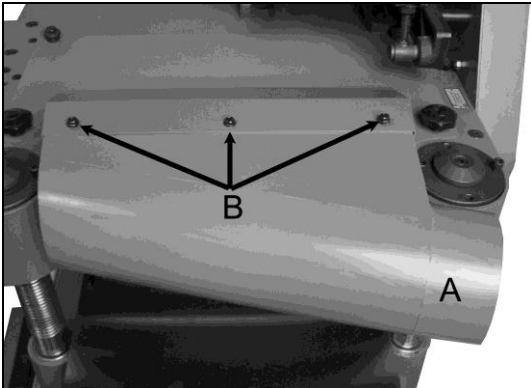
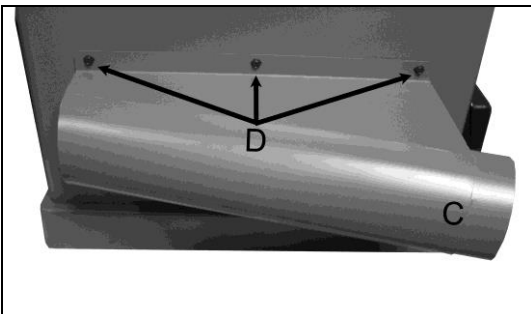

Figure 4
Figure 5
- 1 The top dust chute (A, Figure 4) is shown mounted to the machine using three 10mm bolts (B, Figure 4). Although not shown, there are an additional three bolts on the underside of the chute.
- 2 The bottom dust chute (C, Figure 5) is shown mounted to the machine using three 10mm bolts (D, Figure 4). Again, not shown are an additional three bolts on the underside of the chute.